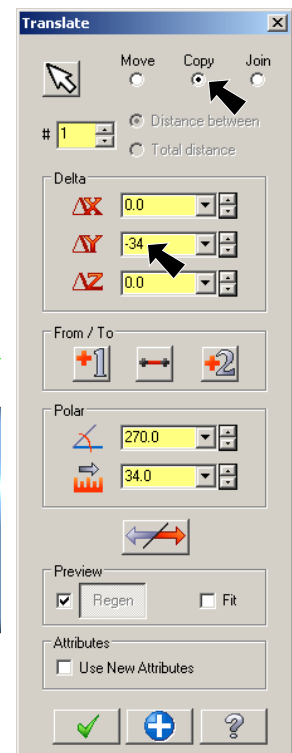

Fig. 27
Step 3. Set: **Copy**  **Y to -34** , Fig. 27 and **press ENTER**.